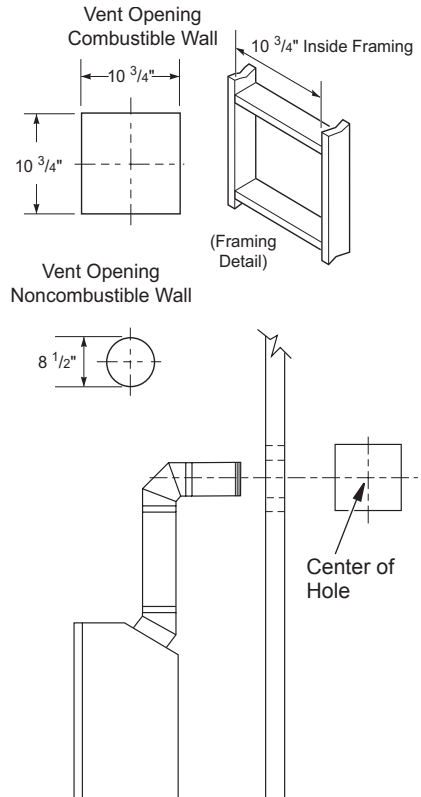
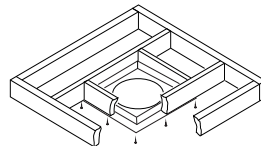

Figure 9 - Vent Opening Requirements
Figure 20 - Installing Firestop
5. Carefully determine the location where the vent pipe assembly will penetrate the outside wall. The center of the hole should line up with the center-line of the horizontal vent pipe. Mark the wall for a 10 3/4" x 10 3/4" square hole. Cut and frame the square hole in the exterior wall where the vent will be terminated. If the wall being penetrated is constructed of noncombustible material, such as masonry block or concrete, a 8 1/2" hole with zero clearance is acceptable (see Figure 9).
1. Cut a 10 3/4" square hole in the ceiling using the locating hole as a center point. The opening should be framed to 10 3/4" x 10 3/4" (27.3 cm x 27.3 cm) inside dimensions, as shown in Figure 9 on page 8 using framing lumber the same size as the ceiling joists. If the area above the ceiling is an insulated ceiling or an attic space, nail firestop from the top side. This prevents loose insulation from falling into the required clearance space. If the area above the ceiling is a living space, install firestop below the framed hole. The firestop should be installed with no less than three nails per side (see Figure 20).
3. Cut a hole in the roof using the locating hole as a center point. (Cover any exposed open vent pipes before cutting hole in roof.) The 10 3/4" x 10 3/4" hole must be measured on the horizontal; actual length may be larger depending on the pitch of the roof. There must be a 1" clearance from the vent pipe to combustible materials. Frame the opening as shown in Figure 9, page 8.